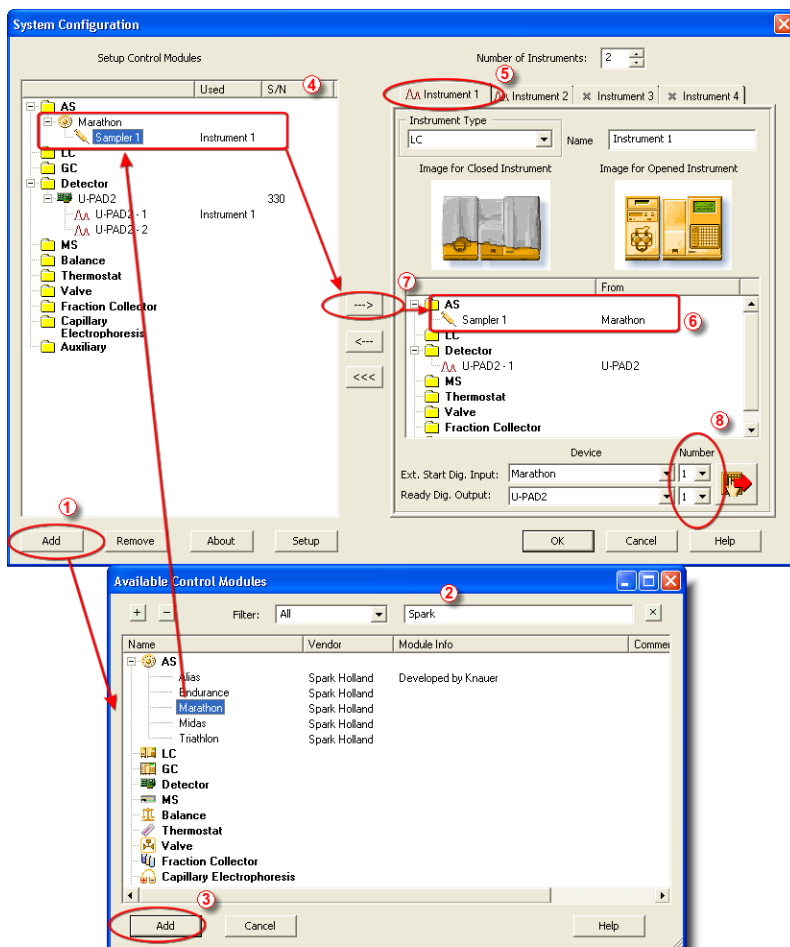

Fig 4: System Configuration
- Press the **Add** button ① (see **Fig 4** on pg 5.) to invoke the **Available Control Modules** dialog.
- You can specify the searching filter ② to simplify the finding of the driver.
- Select the **Marathon** sampler and press the **Add** ③ button.